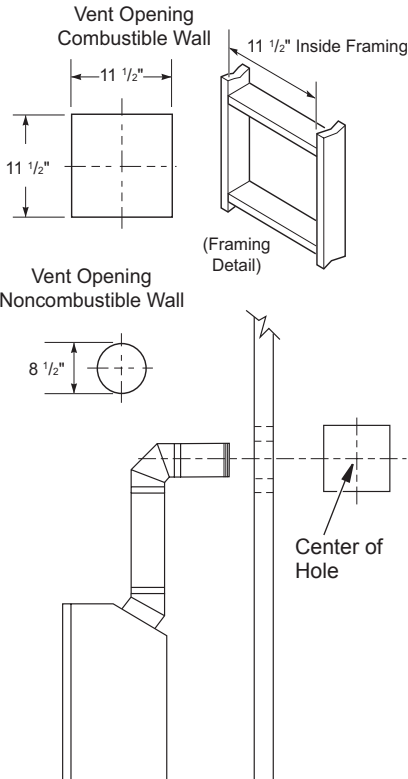
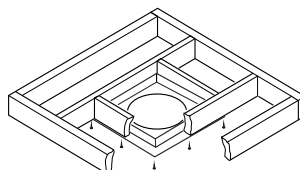

Figure 9 - Vent Opening Requirements
Figure 20 - Installing Firestop
5. Carefully determine location where vent pipe assembly will penetrate outside wall. Center of hole should line up with center line of horizontal vent pipe. Mark wall for a 11 1/2" x 11 1/2" square hole. Cut and frame square hole in exterior wall where vent will be terminated. If wall being penetrated is constructed of non-combustible material, such as masonry block or concrete, a 8 1/2" hole with zero clearance is acceptable (see Figure 9, page 12).
- should be framed to 11 1/2" x 11 1/2" inside dimensions, as shown in Figure 9 on page 10 using framing lumber the same size as ceiling joists. If area above ceiling is an insulated ceiling or an attic, nail firestop from top side. This prevents loose insulation from falling into required clearance space. If area above ceiling is a living space, install firestop below framed hole. Firestop should be installed with no less than three nails per side (see Figure 20).
3. Cut a hole in the roof using locating hole as a center point. (Cover any exposed open vent pipes before cutting hole in roof.) The 11 1/2" x 11 1/2" hole must be measured on the horizontal; actual length may be larger depending on pitch of roof. There must be a 1" clearance from vent pipe to combustible materials. Frame opening as shown in Figure 9, page 12.